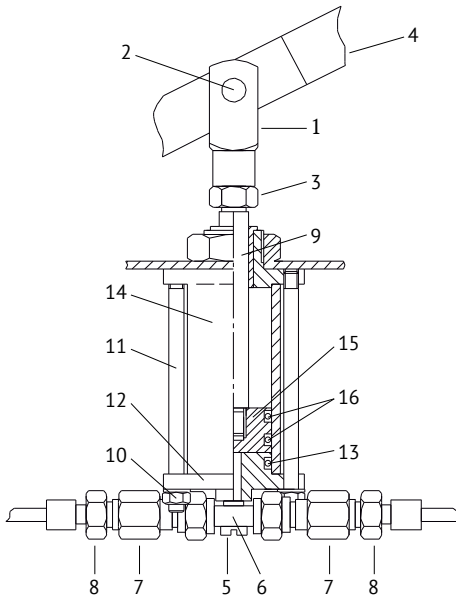

Fig. 3 Arrangement of the pump:
8.3.3 while fixing the lever 4 (Fig. 3), loosen the lock nut 3;